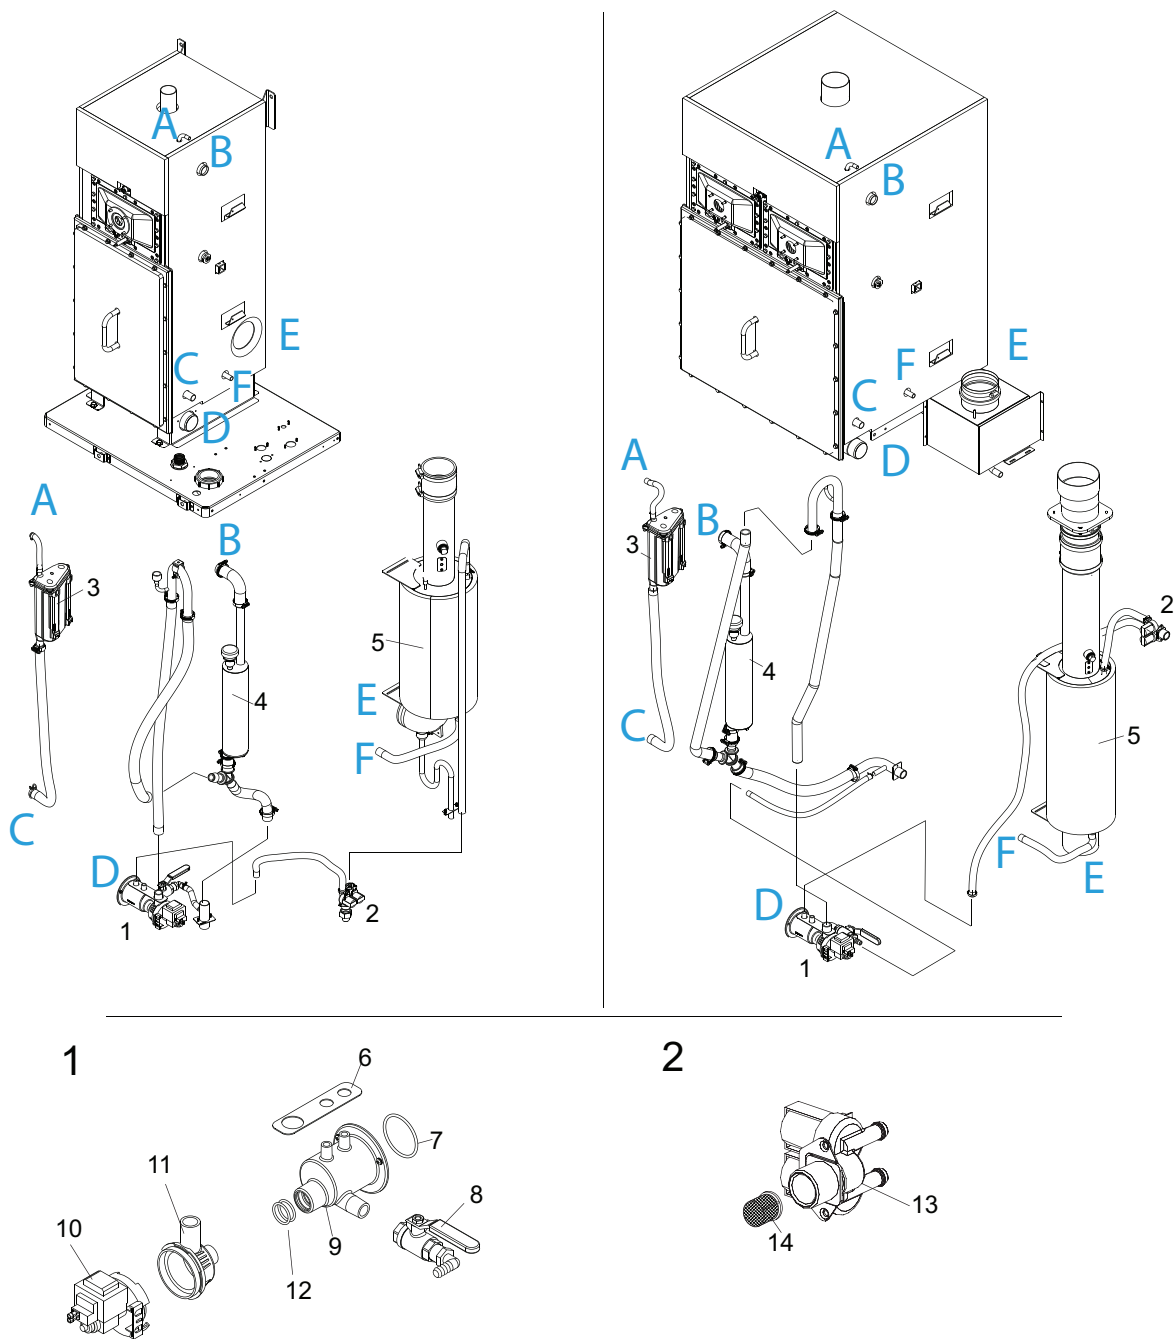

Figure 13: Cleaning Hoses, Dual Fill Valves and Drain Pump (A-G are connection points to humidifier)
- Reconnect the water hoses. You may also refer to Figure 13.
6. Reassemble the float chamber, ensuring the orientation of the floats have been maintained. Reinstall it to the bracket on the humidifier and reconnect hoses. Refer to Figure 13.
Clean the fill and drain hoses, the dual fill valves, and the drain pump as follows. Refer to Figure 13.